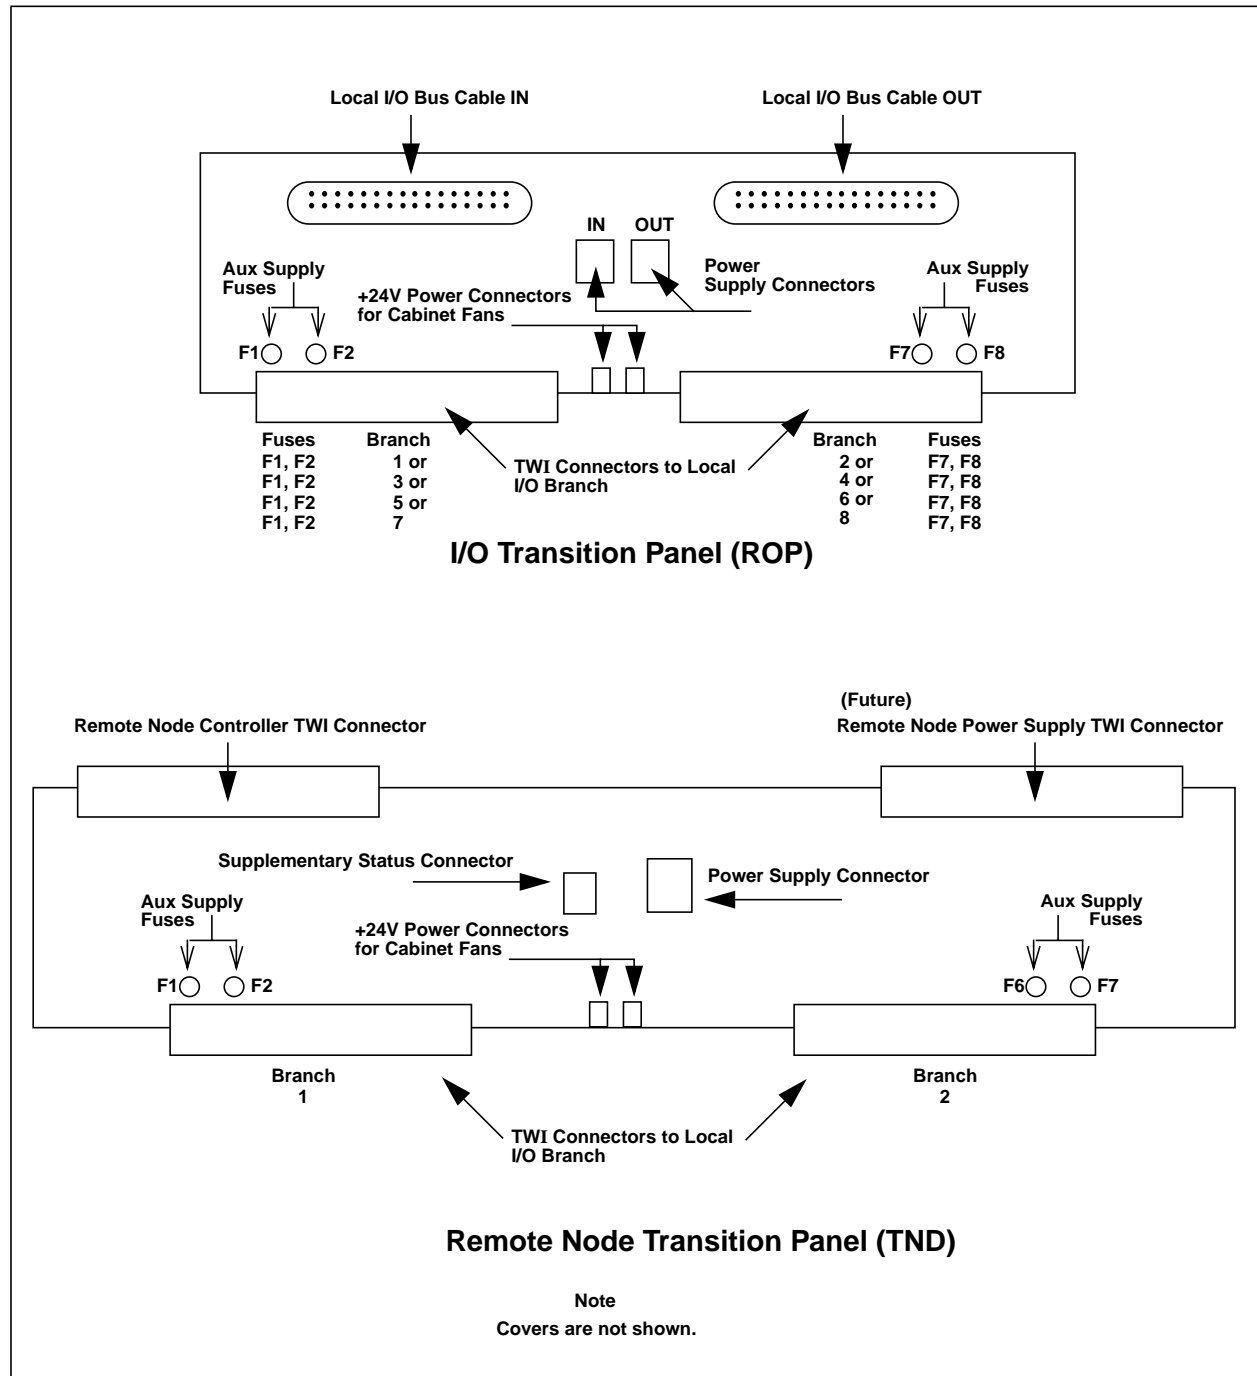

Figure D-3. Auxiliary Power Supply Fuse Locations on ROP and TND Panels
2. If the I/O branch is associated with a transition panel, refer to Figure D-3 and perform the following: